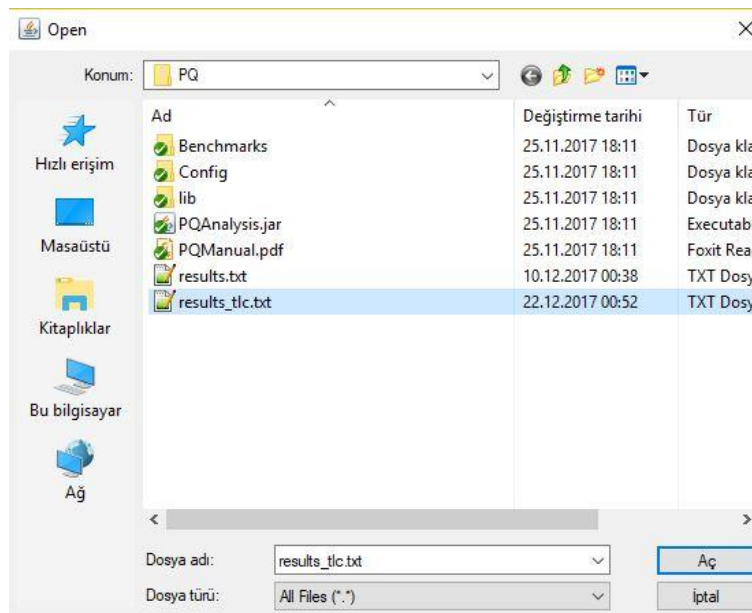

Figure 4
- The “Result.txt” file is selected from the file dialog screen. As seen in Figure 4